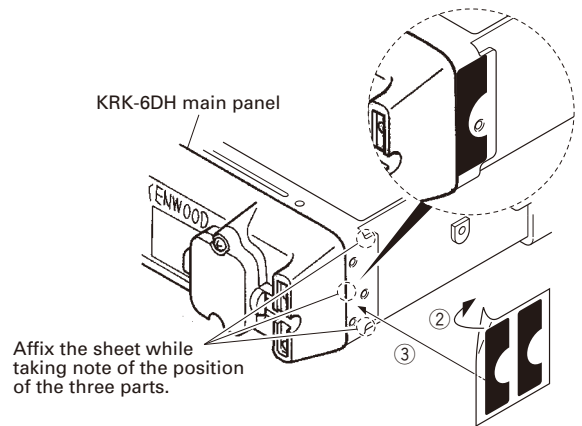

Fig. 3-1-2
4. Affixing the sheet (G11-4379-04) for the waterproof (Fig.3-1-2).
- (1) Remove the covering paper of the sheet ②.
- (2) Affix the sheet while taking note of the position of the three parts as shown in Fig.3-1-2 ③.